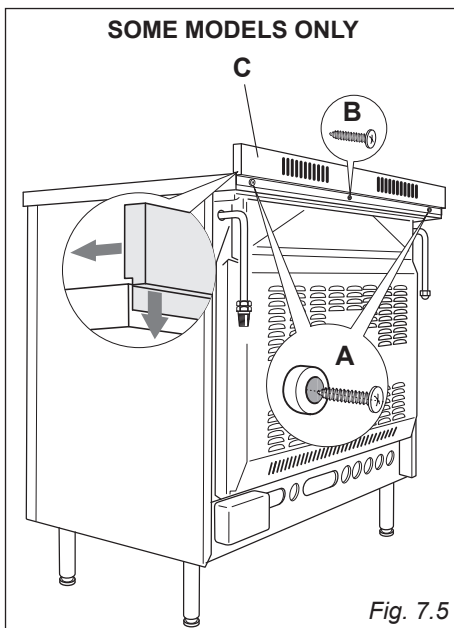

Fig. 7.5
Before installing the cooker, assemble the backguard "C" (fig. 7.5).
- Assemble the backguard as shown in figure 7.5 and fix it by screwing the central screw "B" and the spacers "A".